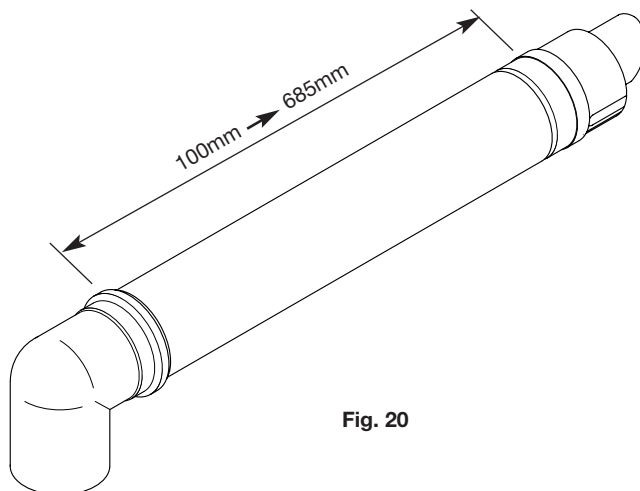

Fig. 20
1. The standard flue is suitable for lengths between 100mm minimum and 685mm maximum, as measured from the edge of the flue elbow outlet to the joint between the terminal and air duct (Fig. 20).